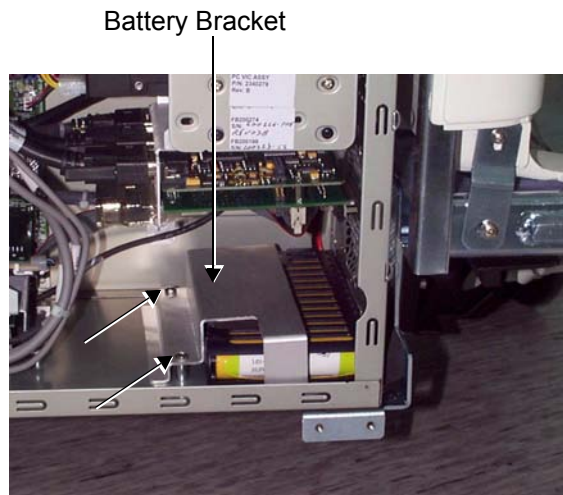

Figure 8-48 Plug & Scan Battery Bracket and Screws
- 4) Remove the two screws that secure the battery bracket in position (see Figure 8-48 below); remove the bracket.
- 2) Mount the battery and bracket in its original location in the BEP, tightening the screws (two or three as shown in Figure 8-48 on page 8-58) to secure it firmly in position.